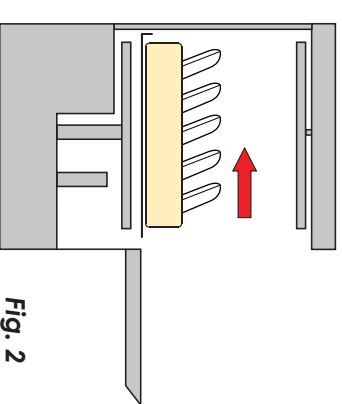

Fig. 2
3. Place bedpans, bottles and bowls in the rack correctly making sure the items are inverted in the direction as shown in (Fig.2) and close the door.